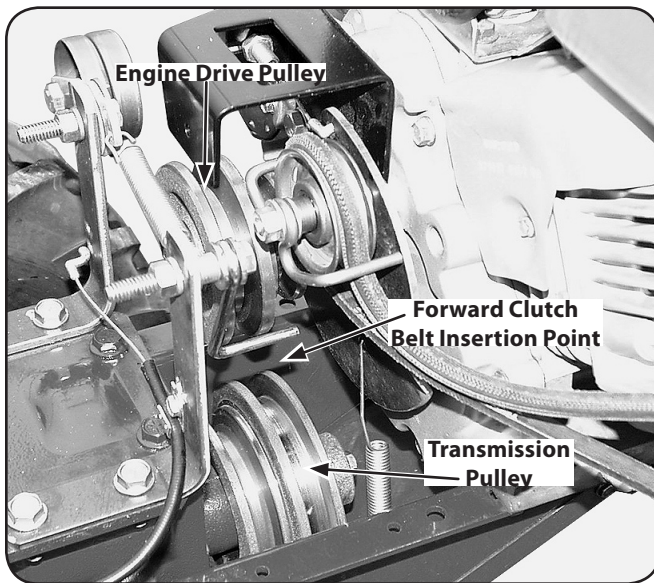

Figure 7-5
8. From the front of tiller, insert the forward clutch belt in between the bottom of the engine drive pulley and the top of transmission pulley. See Fig. 7-5.
11. Reinstall the reverse clutch belt. Insert the bottom of the belt into the frame, then pull down on the belt and roll it onto the large, forward-most groove of the transmission pulley. See Fig. 7-5.